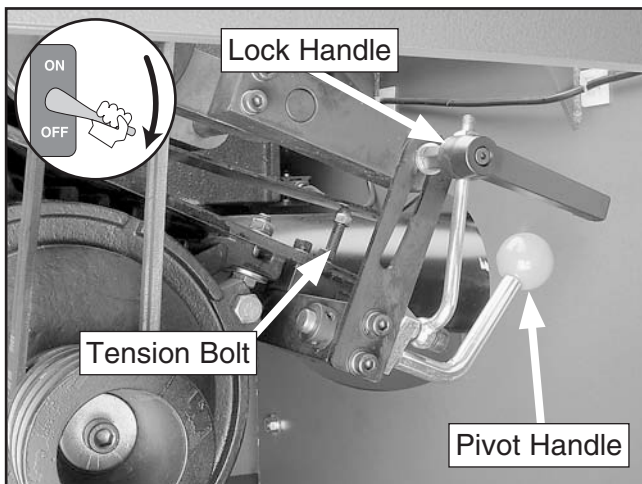

Figure 123. Main blade belt tension controls.
4. Loosen the lock handle (**Figure 123**), rotate the pivot handle down 180°, then tighten the lock handle.